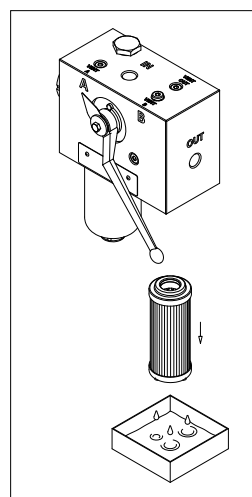

fig. 12
- (Fig. 12) Pull the filter element out.